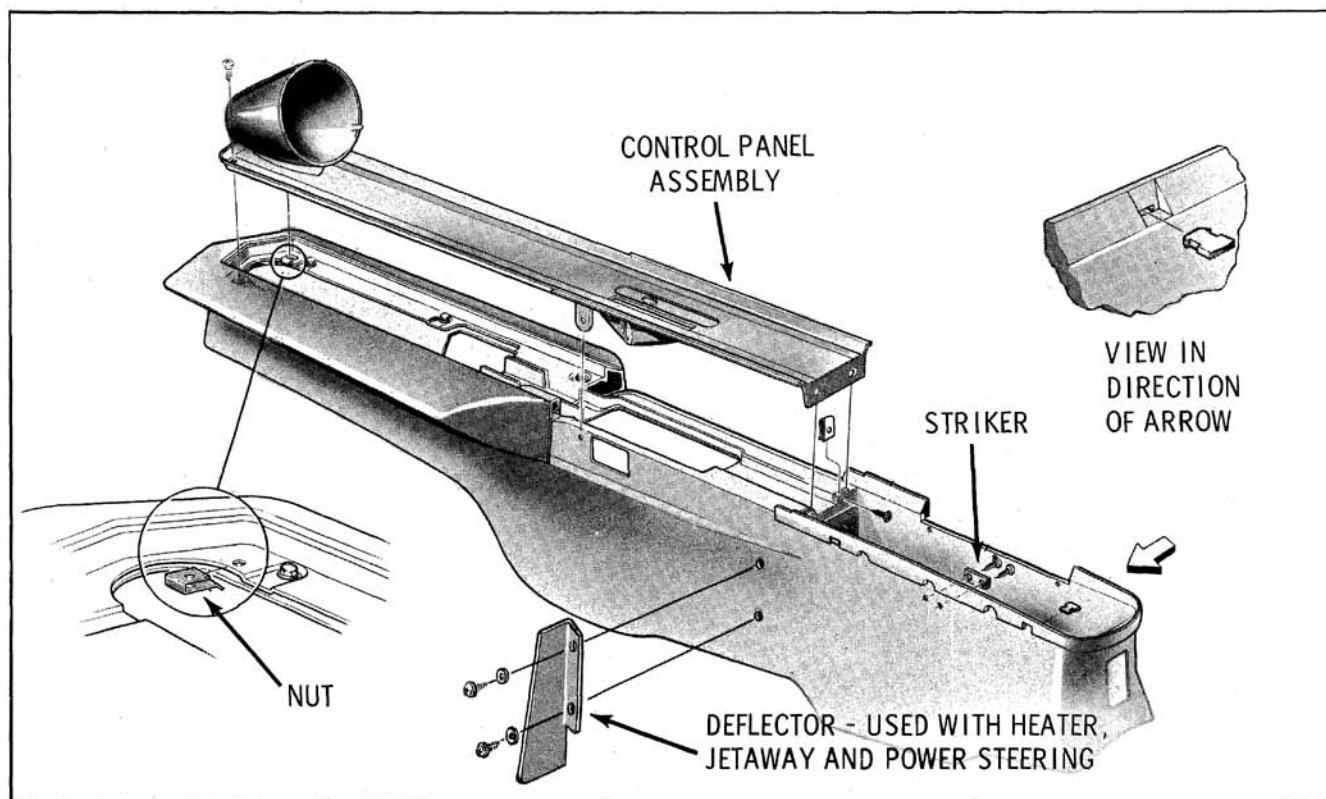

Fig. 12-117 Control Panel to Console Attachment (Jetaway)
6. Spread the console side moldings apart and lift off the console control panel. (Fig. 12-117)